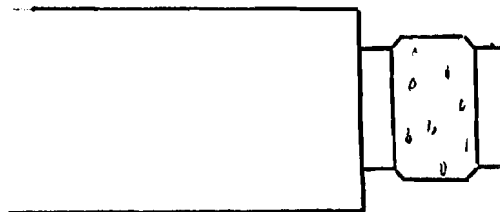

Figure 39
- l) Bevel the edges of the cork (Figure 39) with a file or a sanding stick.